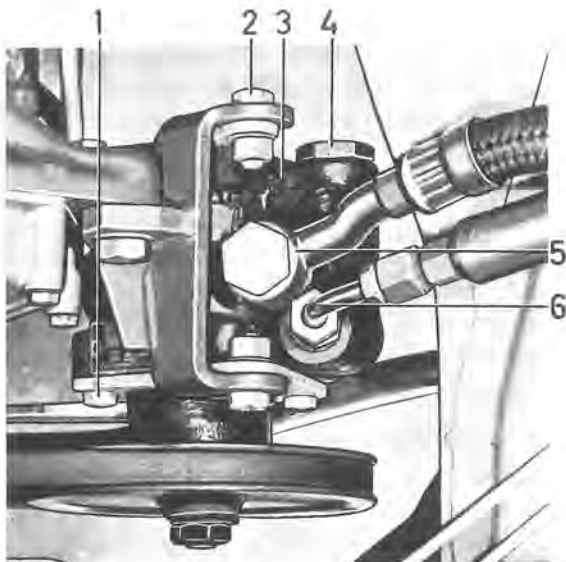

Fig. 6-87. Power pump, installed
1. Clean round the connections (5 and 6, Fig. 6-87).
2. Disconnect the suction line (5) and collect the oil running out.
3. Disconnect the delivery line (6), and unscrew the tensioning bolt (1) and the attaching bolts (2). Protect the nipples and connections from dirt.
Concerning replacement of pump, supplement the new pump with brackets, pulley and other parts, see Fig. 6-87. When installing the pulley, the tolerances may be such that the pulley cannot be pressed on by hand. In these cases, press on the pulley with care. It must not be hammered on, otherwise the bearings might easily get damaged, resulting in noise in the pump.
2. Fit the attaching bolts and other components, see Fig. 6-87. Tension the drive belt so that it can be pressed in about 5 mm (3/16") in the middle. Tighten the bolts and the connections.